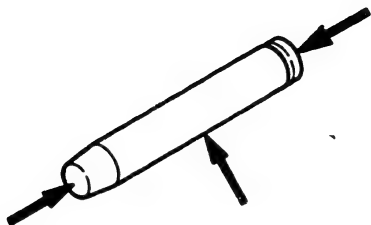

Fig. 27 Pin
5. Check that the pin's surface and both tips are not worn, scratched or damaged excessively. Replace the pin if defective. (Fig. 27)